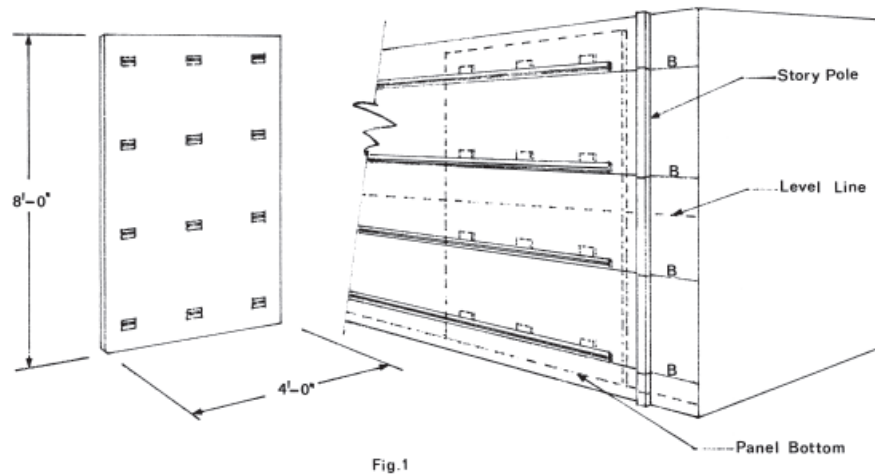

Figure 3 – A schematic how clips work with Stonewood for interior wall installation
- C. Clips work in pairs, part A (top clip) is attached to the panel, and part B (bottom clip, also called furring channel) is fastened to the structural wall. Figure 3 schematically shows how the system works for a 4'x8' panel.